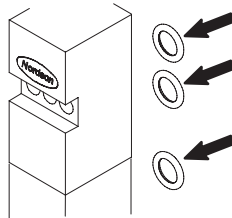

Figure 9-7 Removing the O-rings located on the back of the module
1. See Figure 9-7. Remove and discard the O-rings from the back of the module.